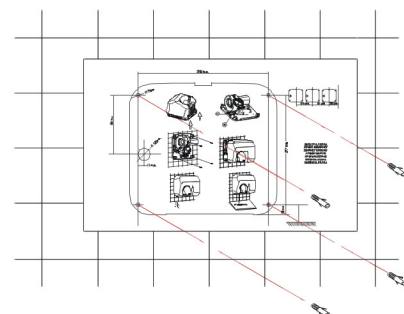

Fig. 6
1. Drill four $\varnothing 8 \text{ mm}$ ($\varnothing 0.31''$) holes using the supplied template. Clean up the holes once they have been made. Insert the four plugs until they are flush with the surface (see figure 6).